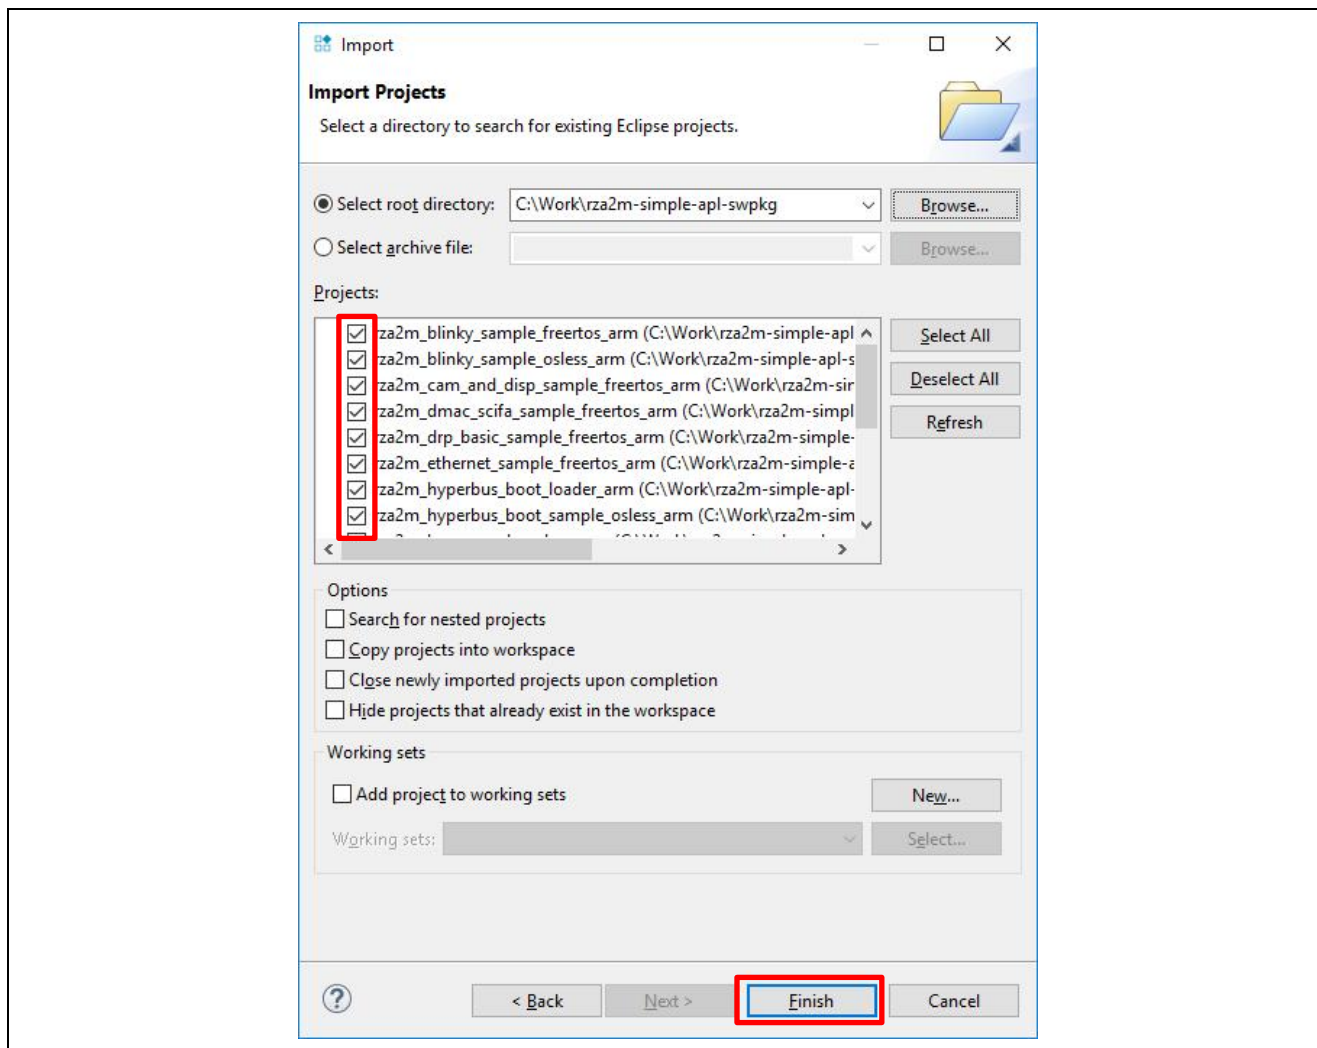

Figure 3-5 Import target project
- Confirm your target project is checked, then click 'Finish'. This is shown in Figure 3-5.
(Note: Projects in Figure 3-5 are just sample. From here, please read the project name as your target project name.)